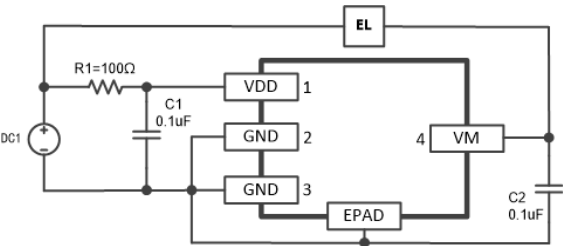

Figure3
- a. According to the figure3, connect the DC1 power supply to the B + and GND pins of the system board and set the voltage to about 3.0V/3.6V/4.2V. Connect the electronic load from B + to VM and observe the waveform.